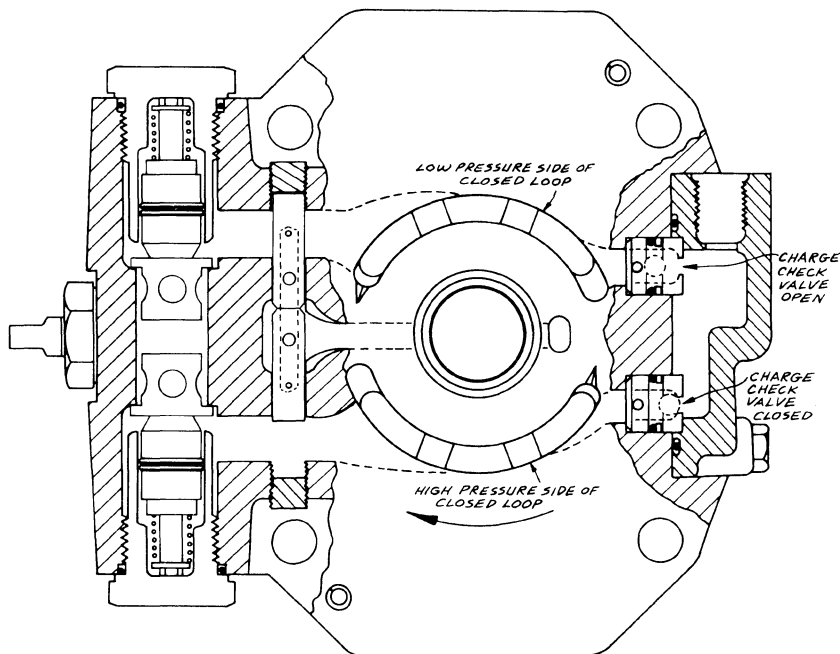

FIGURE 9
(4) If the operator moves the controls (pump cam plate) in the other direction, the opposite side of the closed loop becomes the high pressure side. The other check valve can open to charge oil to keep the closed loop filled. See Figure 9.